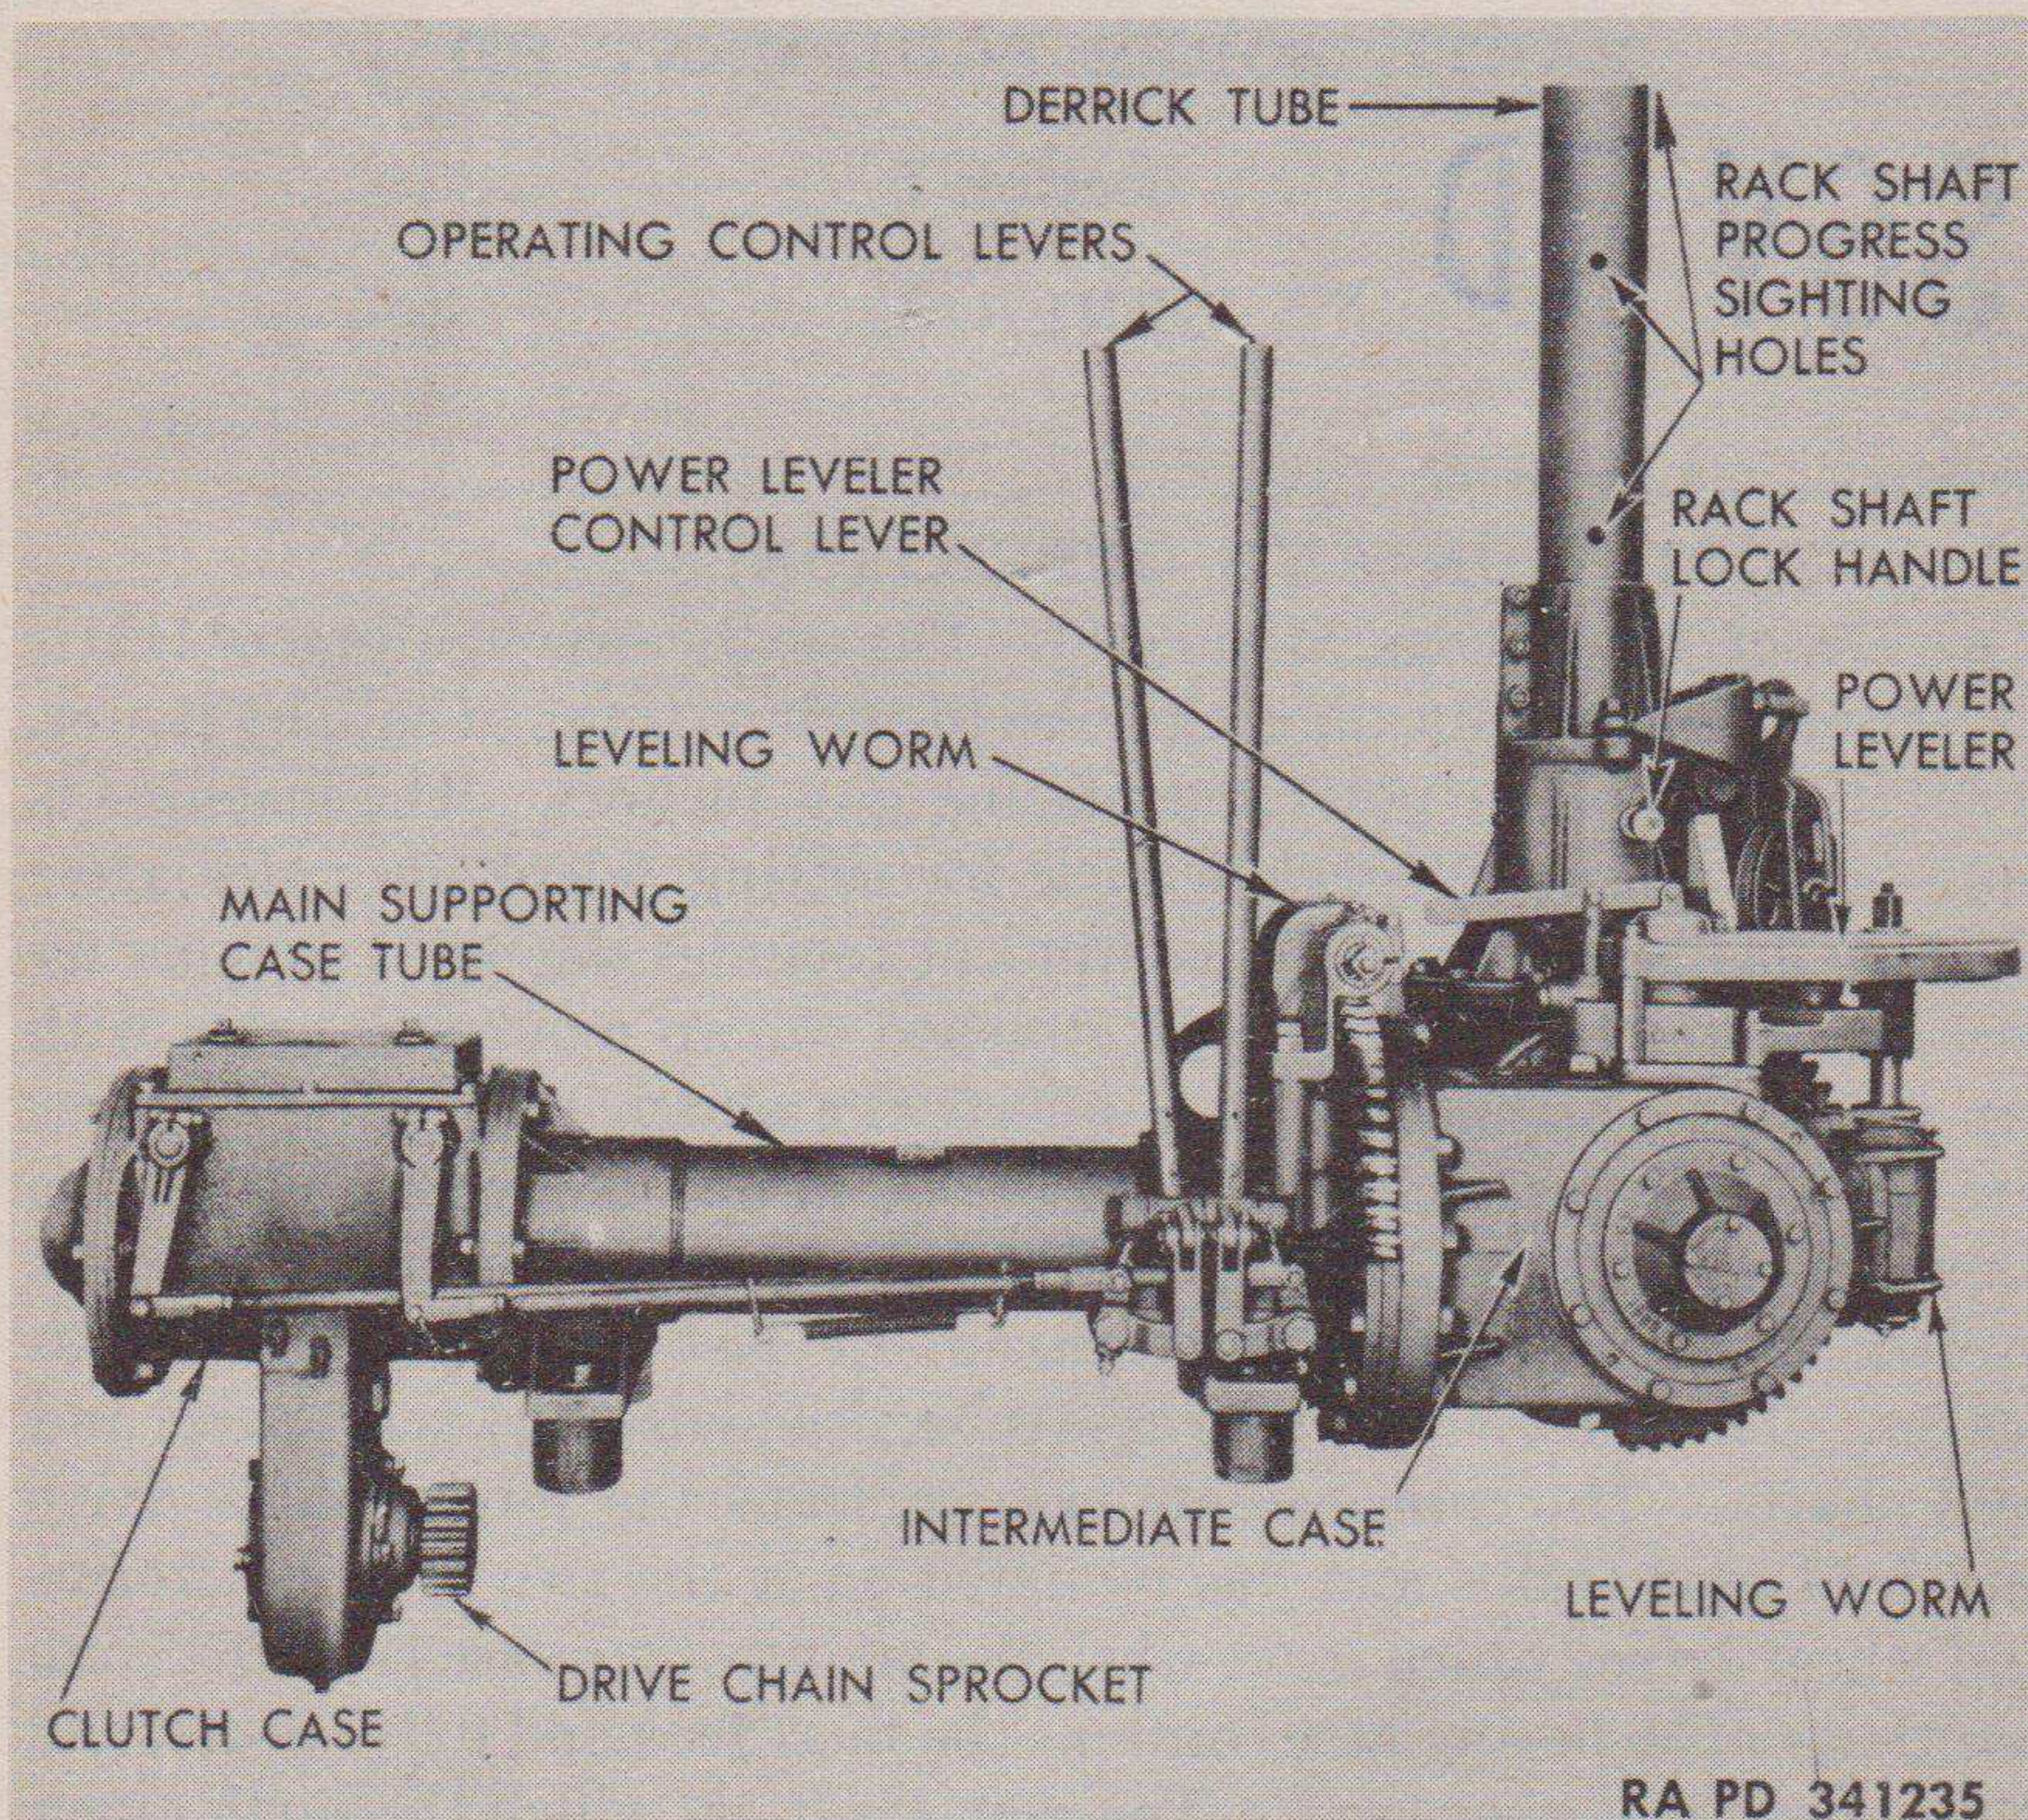

Figure 57—Earth Borer HD—Front View
a. **Description** (figs. 57 and 58). The earth borer equipment HD is a machine designed for digging holes in various types of soil, by power, for setting telephone poles and placing guy anchors. The machine is equipped with an integral derrick for setting telephone poles after the hole has been dug. The equipment includes the main supporting case tube, which is a steel shell attached to two mounting bases with cap screws. This steel shell supports the clutch case, which houses the feed and driving clutches, and brakes at one end, and supports the intermediate and boring cases at the other end. These latter cases project to the rear of and overhang the last body platform cross bearer. The main supporting case tube also houses the main drive and feed shafts. The intermediate case contains the intermediate drive and feed gear trains and has mounted on it the two leveling worms and wheel drives which serve when the main boring case is shifted into position. The boring case contains the final feed and drive gears, and the rack shaft boring head. The rack shaft, on which the earth auger